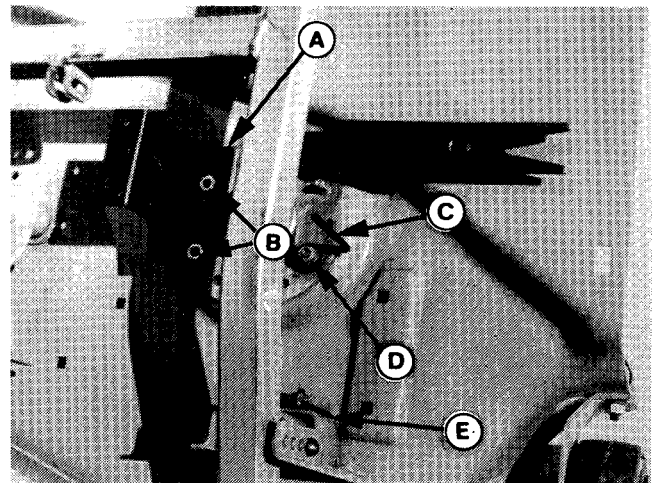

Figure 4.
10. Install new belt cover bracket (A, figure 4) using existing arbor screws and supplied 5/16-18 locknuts (B). Install upstop (E) on right rear post with 1/4-20 capscrew, lockwasher, and nut.
11. Install belt stop (C, figure 4) onto existing arbor screw as shown in figure 4. Secure with existing flat washer, lockwasher, and nut ((D, removed from bracket in step 3). Tighten snug only at this time.